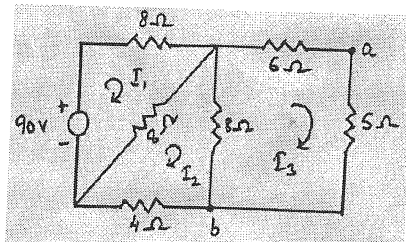

Fig.10
8. Find the currents I_1 , I_2 and I_3 for the circuit shown in Fig.10. Also find potential difference between a and b.